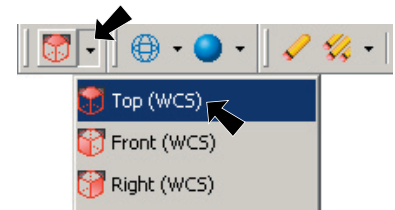

Fig. 6
Step 1. Click the down arrow of the Set Planes button  in the toolbar and click **Top (WCS)**, Fig. 6.